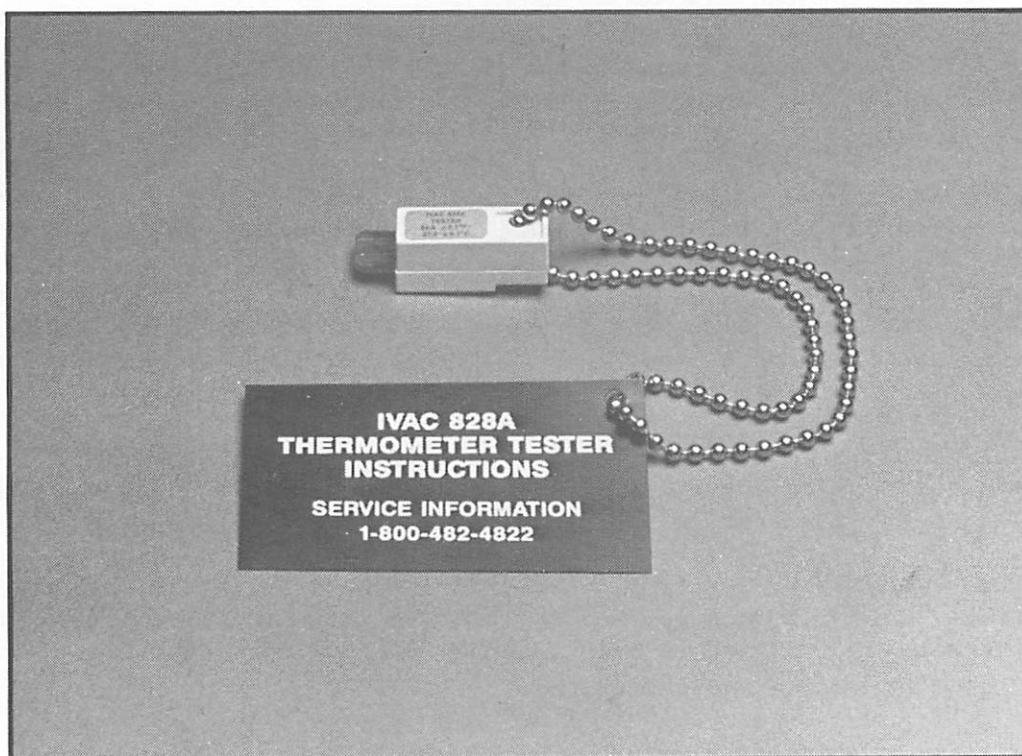

Figure 1-9. IVAC Thermometer Tester
- n. IVAC Thermometer Tester - Model 828A (figure 1-9). The thermometer tester confirms in a few seconds that the VITAL●CHECK monitor thermometer function is calibrated by displaying either 98.6°F or 37°C, depending on the setting of the °F-°C switch.